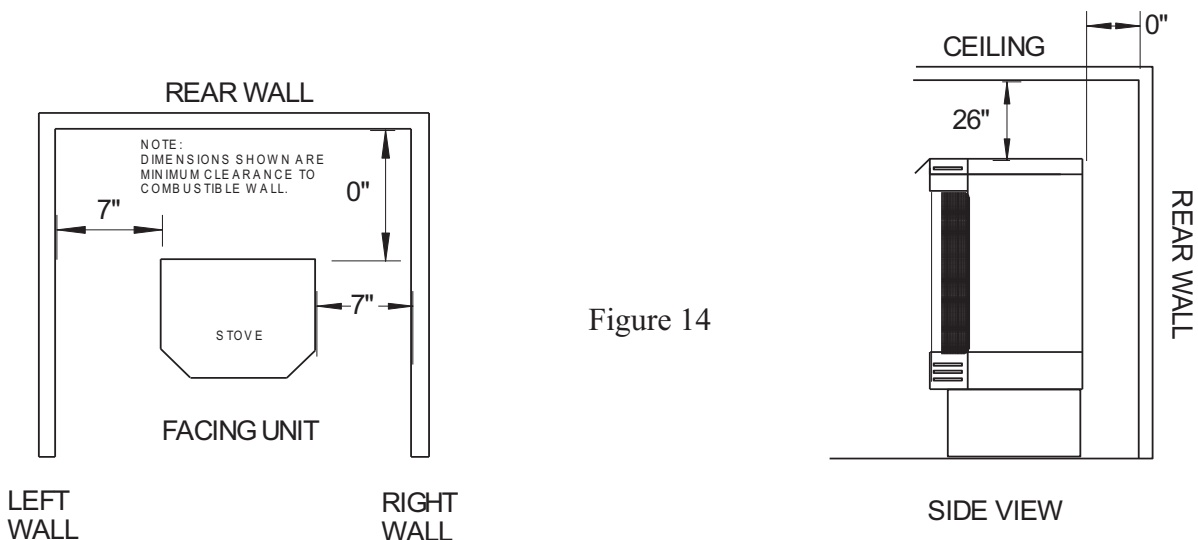

Figure 14
- (1) For clearances, see Figure 14. The minimum must be met.
- (2) For Installation and Gas Hookup Connection see Section II page 5.